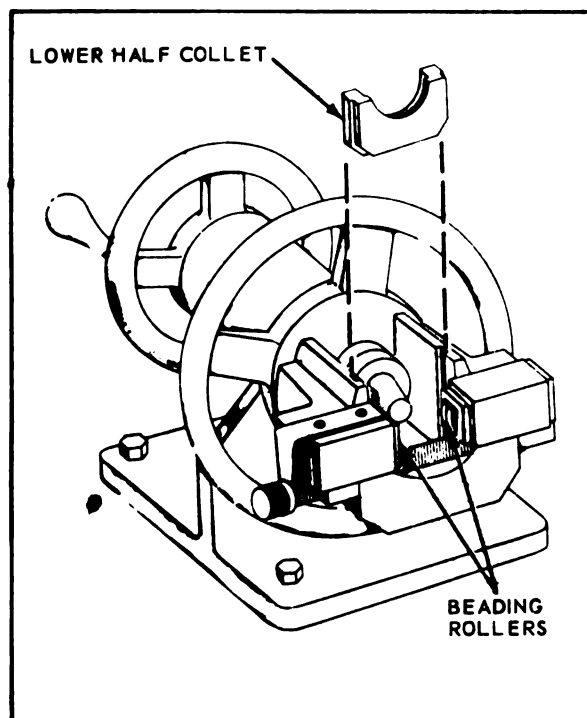

Figure 11-12. Installing Mandrel and Lower Half Collet
- d. Place mandrel in shaft as in figure 11-12.